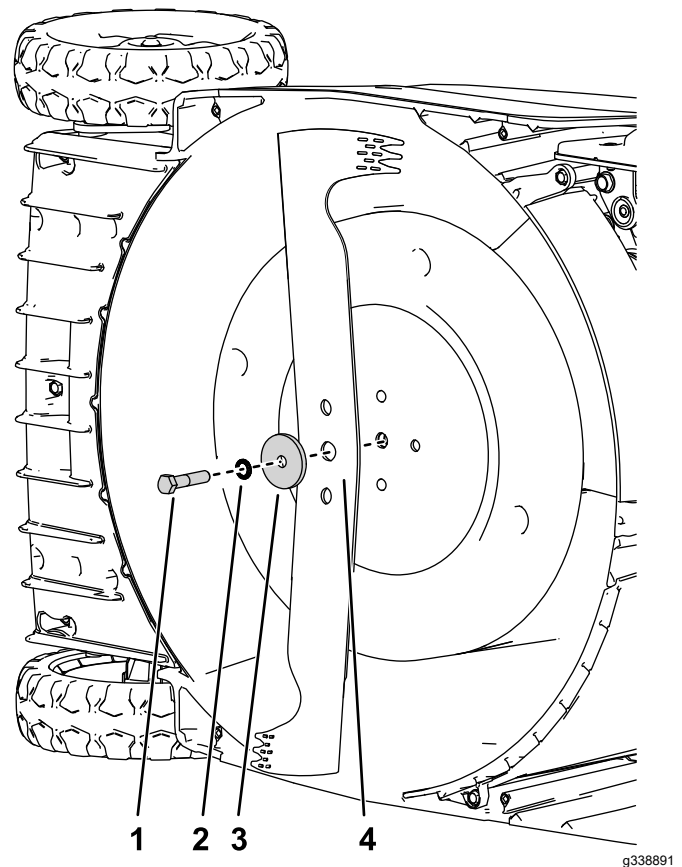

Figure 29
4. Install the new blade and all mounting hardware (Figure 29).